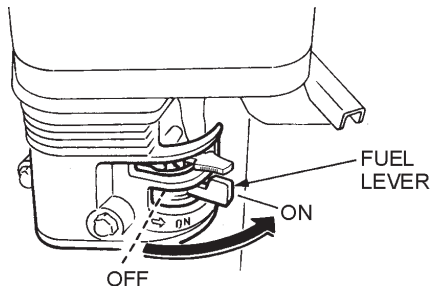

Figure 7. Fuel Valve Lever
1. Place the **fuel valve lever** (Figure 7) in the **ON** position.